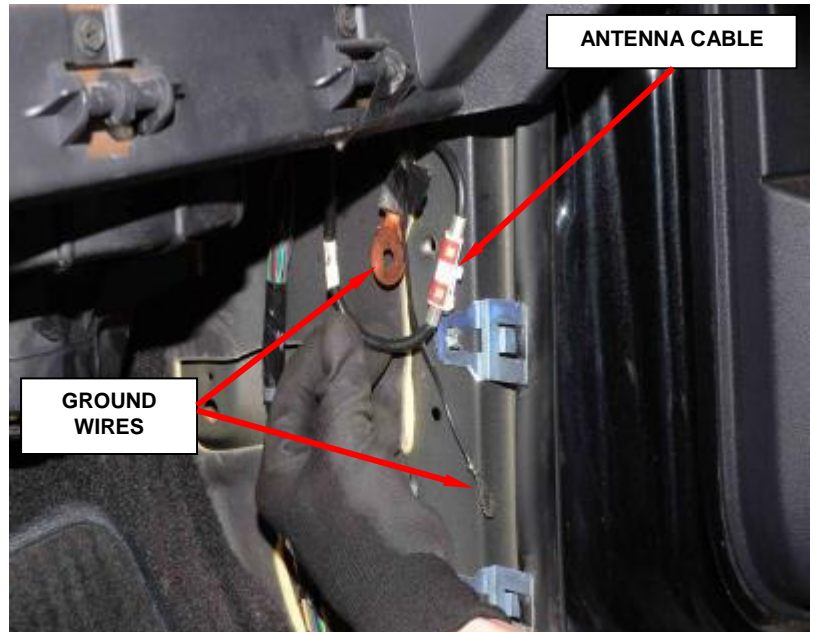
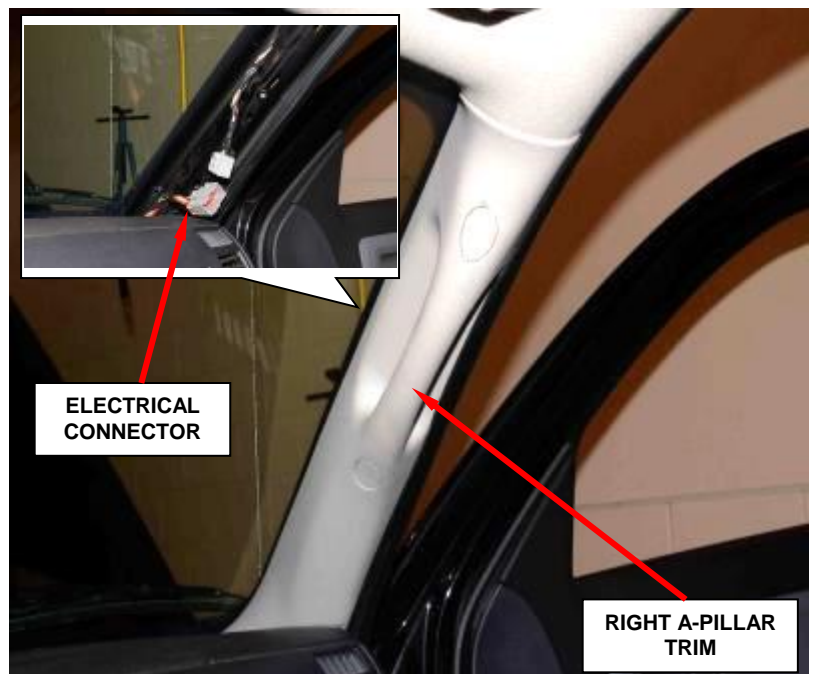

Figure 62 – Ground Bolt and Nut
Figure 63 – A-Pillar Trim (Right Side Shown)
26. Remove the bolt and nut and disconnect the grounds on the right A-pillar (Figure 62).
27. Disconnect the antenna cable (62).
28. Remove the right and left side A-pillar trim (Figure 63).
29. Disconnect the right side A-pillar electrical connector (Figure 63).